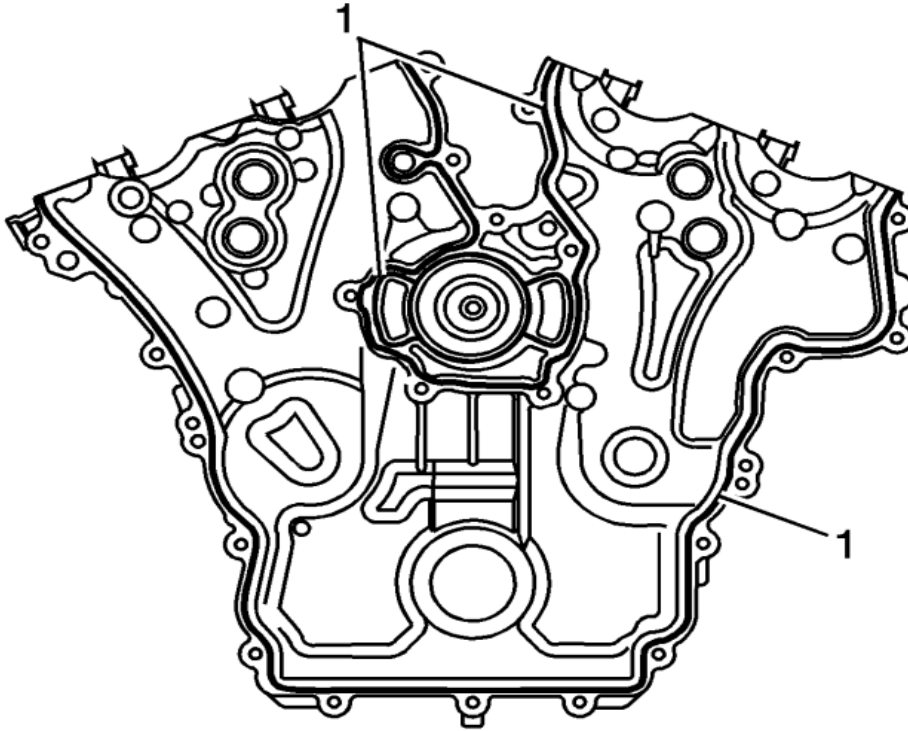

Fig. A14.18 Location of RTV Bead Placement
A14.18 Place a 3 mm bead of RTV sealant, GM P/N 12378521 on the engine front cover as shown in Fig A14.18 (1).